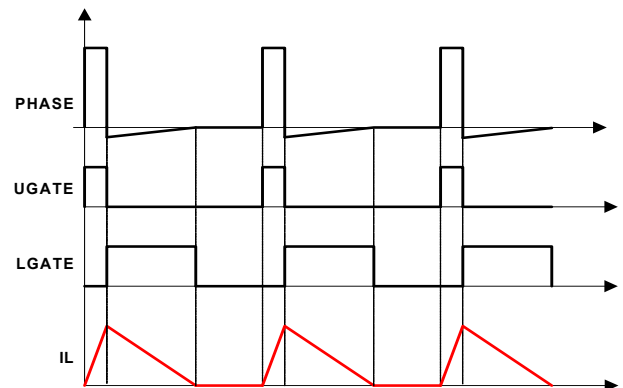

FIGURE 37. DIODE EMULATION
The R3 modulator can operate in Diode Emulation (DE) mode to increase light-load efficiency. In DE mode, the low-side MOSFET conducts when the current is flowing from source-to-drain and does not allow reverse current, emulating a diode. As shown in Figure 37, when LGATE is on, the low-side MOSFET carries current, creating negative voltage on the phase node due to the voltage drop across the ON-resistance. The IC monitors the current by monitoring the phase node voltage. It turns off LGATE when the phase node voltage reaches zero to prevent the inductor current from reversing the direction and creating unnecessary power loss.
If the load current is light enough, as Figure 37 shows, the inductor current reaches and stays at zero before the next phase node pulse and the regulator is in Discontinuous Conduction Mode (DCM). If the load current is heavy enough, the inductor current never reaches 0A and therefore, the regulator is in CCM although the controller is in DE mode.